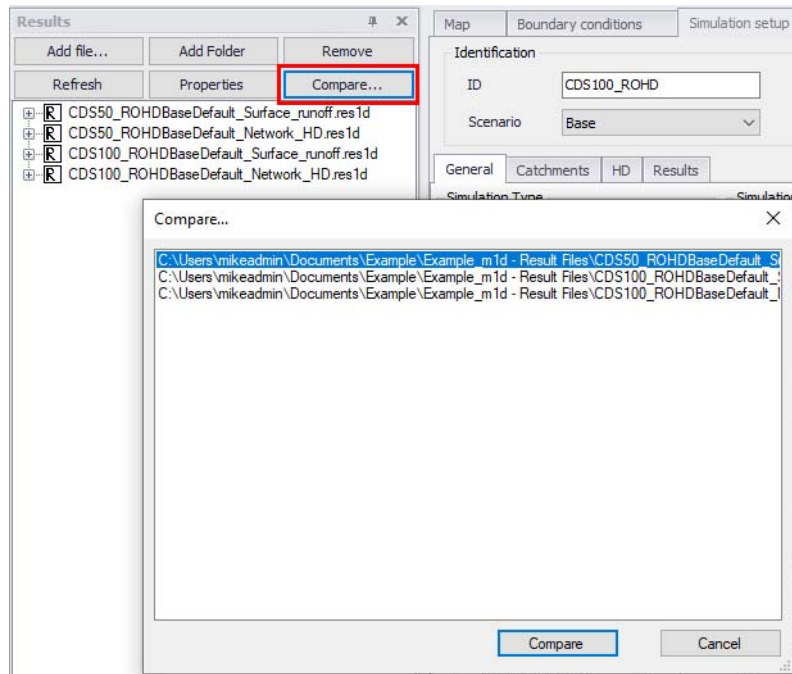

Figure 20.98 Loading result files for comparison of results
- Select one of the result file layers (i.e. File A) on the Results manager, and click on the ‘Compare...’ button at the top of the panel (Figure 20.98). This will launch a dialog listing other loaded result file layers available for comparison with the currently-selected layer.